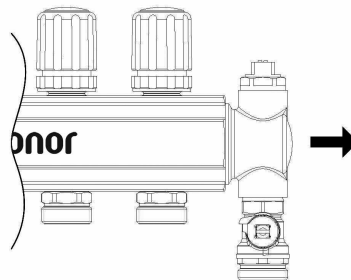

Figure 1
1. Remove the end cap with vent and drain from the manifold body. (See **Figure 1**.)